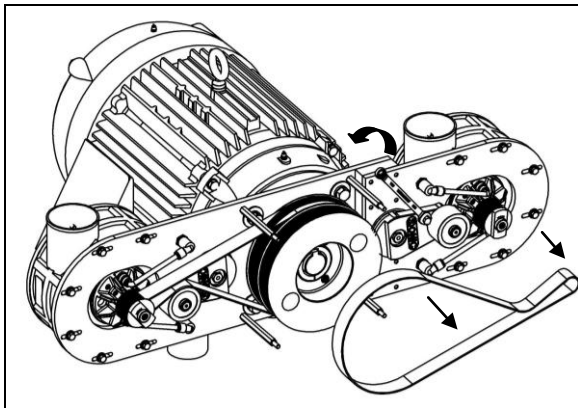

Figure 14 – Remove Belt
2. Using the 9/16 inch box-end wrench, rotate the belt tensioner counter clockwise (CCW) and remove the belt. (See Figure 14)